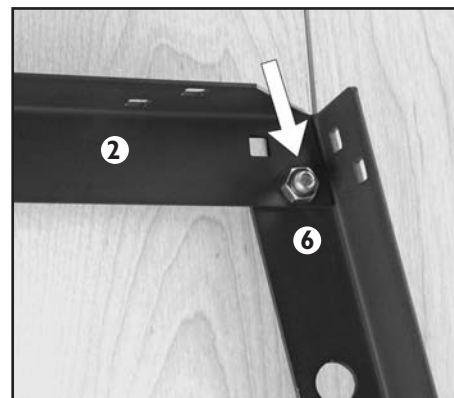

Fig. 3
3. Move to the upper right side and fasten the right leg (6) and the Upper Side Stretcher (2) again using the 5/16-18 bolts (10) and nut (11) using the hole closest to the inside corner of the leg. **Fig. 3.**